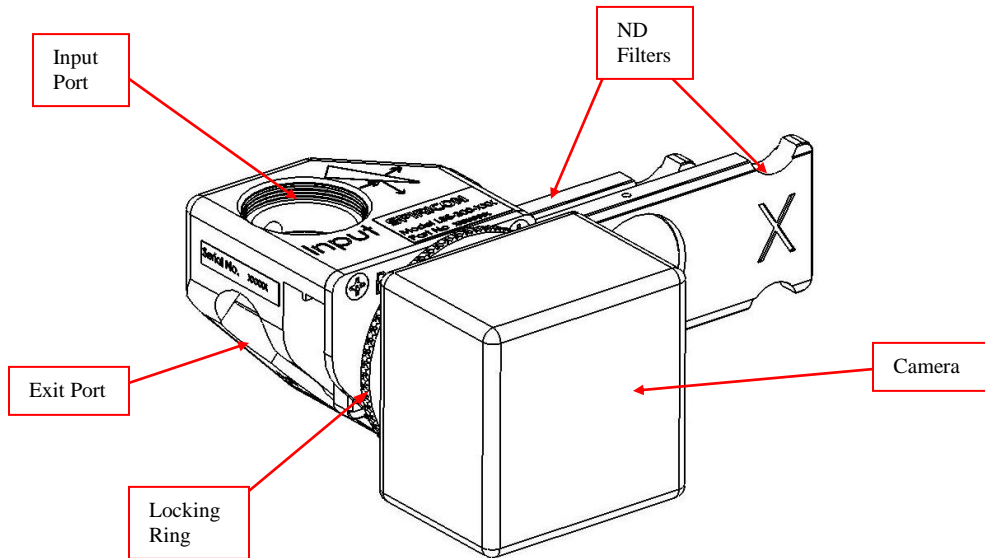

Figure 1
1. The LBP2-SAM is attached to the camera as shown in Figure 1. An adjustable locking ring is provided so that the beam sampler can be oriented with the input port to the right, left, up, or down as required.